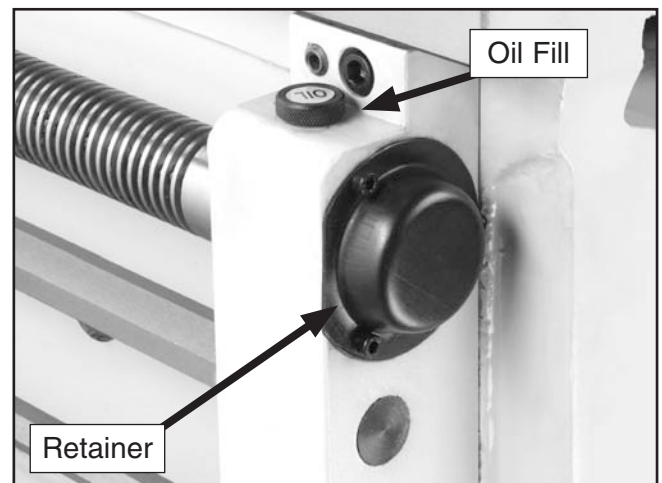

Figure 102. Leadscrew end play adjustment location.
2. Using a 4mm hex wrench, remove the three cap screws and the cover (**Figure 102**).
3. Using a 3mm hex wrench, loosen the retainer set screw (**Figure 102**).